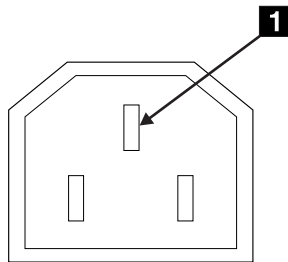

Figure 9. Ground pin (220 V 2104 Model DS4 )
5. Check for continuity between the chassis of the 2104 Model DS4 and the ground pin **1** of the power connector on each fan-and-power-supply assembly. See Figure 9.